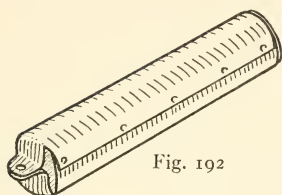
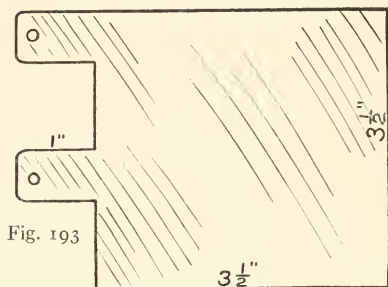

Fig. 192
Fig. 193
**For the Handles** take two pieces of broom-handle  $3\frac{1}{2}$  inches long, and cover each with a piece of tin (Fig. 192). The pattern for the tin covering (Fig. 193) shows how tabs are prepared on the ends and holes punched through them for connecting with the induction-coil. The connecting wires should be 5 or 6 feet long. Flexible wire is better than bell-wire for these, because it is more easily handled in passing the handles around. Tack the tin covering to the pieces of broom-handle.
FIGS. 192 and 193. — Details of Shocking-Coil Handles.